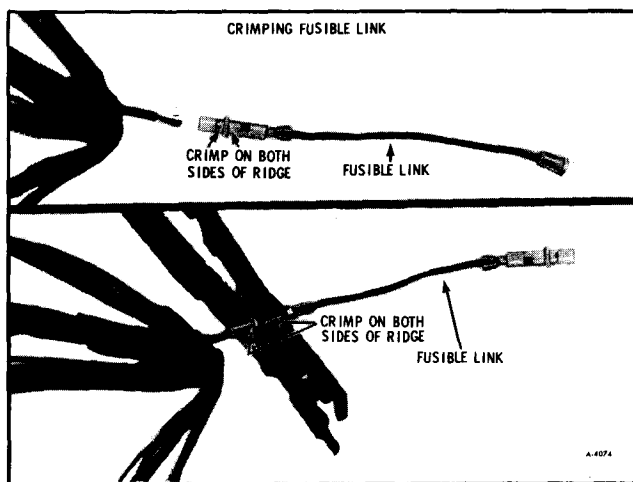

Figure 8—Fusible Link Replacement
### Fusible Link Replacement (Figure 8)
3. Cut harness directly behind connector to remove damaged fusible link (figure 8).